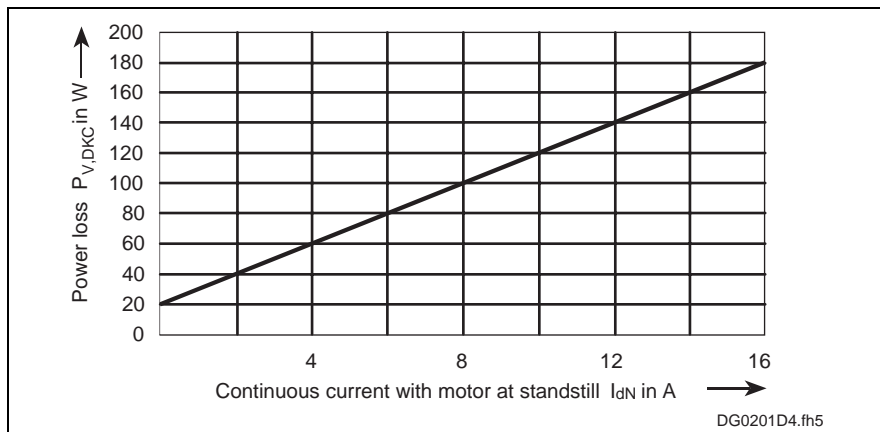

Fig. 10-1: Determining the power dissipated in the control cabinet
- ⇒ Using the I_{dN} value of the motor selected, find the value in the diagram in Fig. 10-1 for the power dissipation $P_{V,DKC}$.